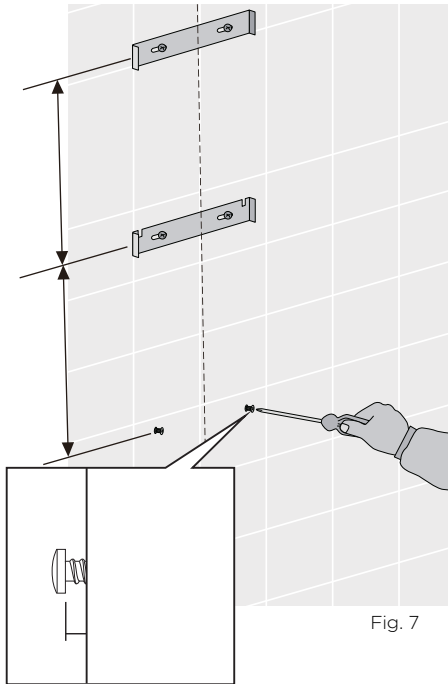

Fig. 7
3. Install flue cover wall mounting brackets with suitable fixings. Install suitable screws for rangehood mounting points (to support a total weight of 30kg) to the wall as marked (Fig. 7)